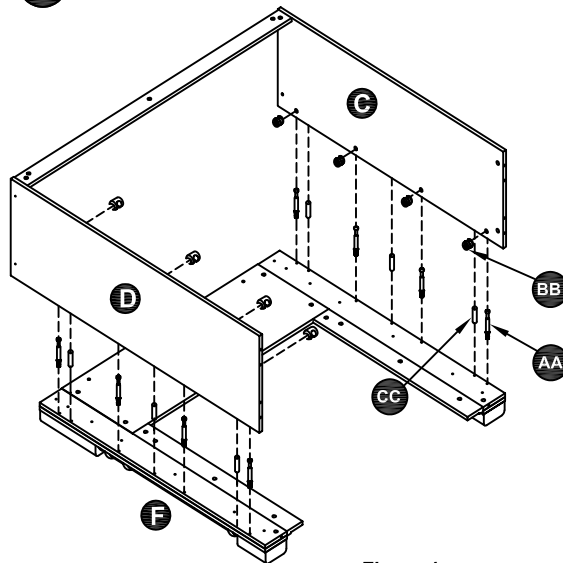

**Figure 3**
3. Insert the cam Locks (BB) and wood Dowels (CC) into the rear crossbar (J) respectively. Move the camScrew the Cam Dowels (AA) into the left side panel (C) and right side panel (D).Secure it by tightening the cam Locks (BB), as shown in Figure 3.